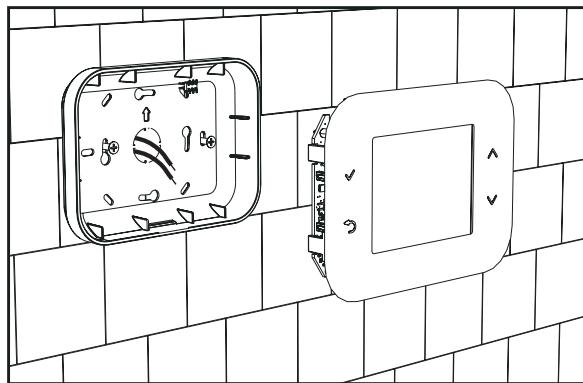

fig. 7
2. Secure the back panel directly to the wall or to 2- or 3-module junction boxes using the screw seats, making sure to run the wires through the slot as indicated in fig. 7.